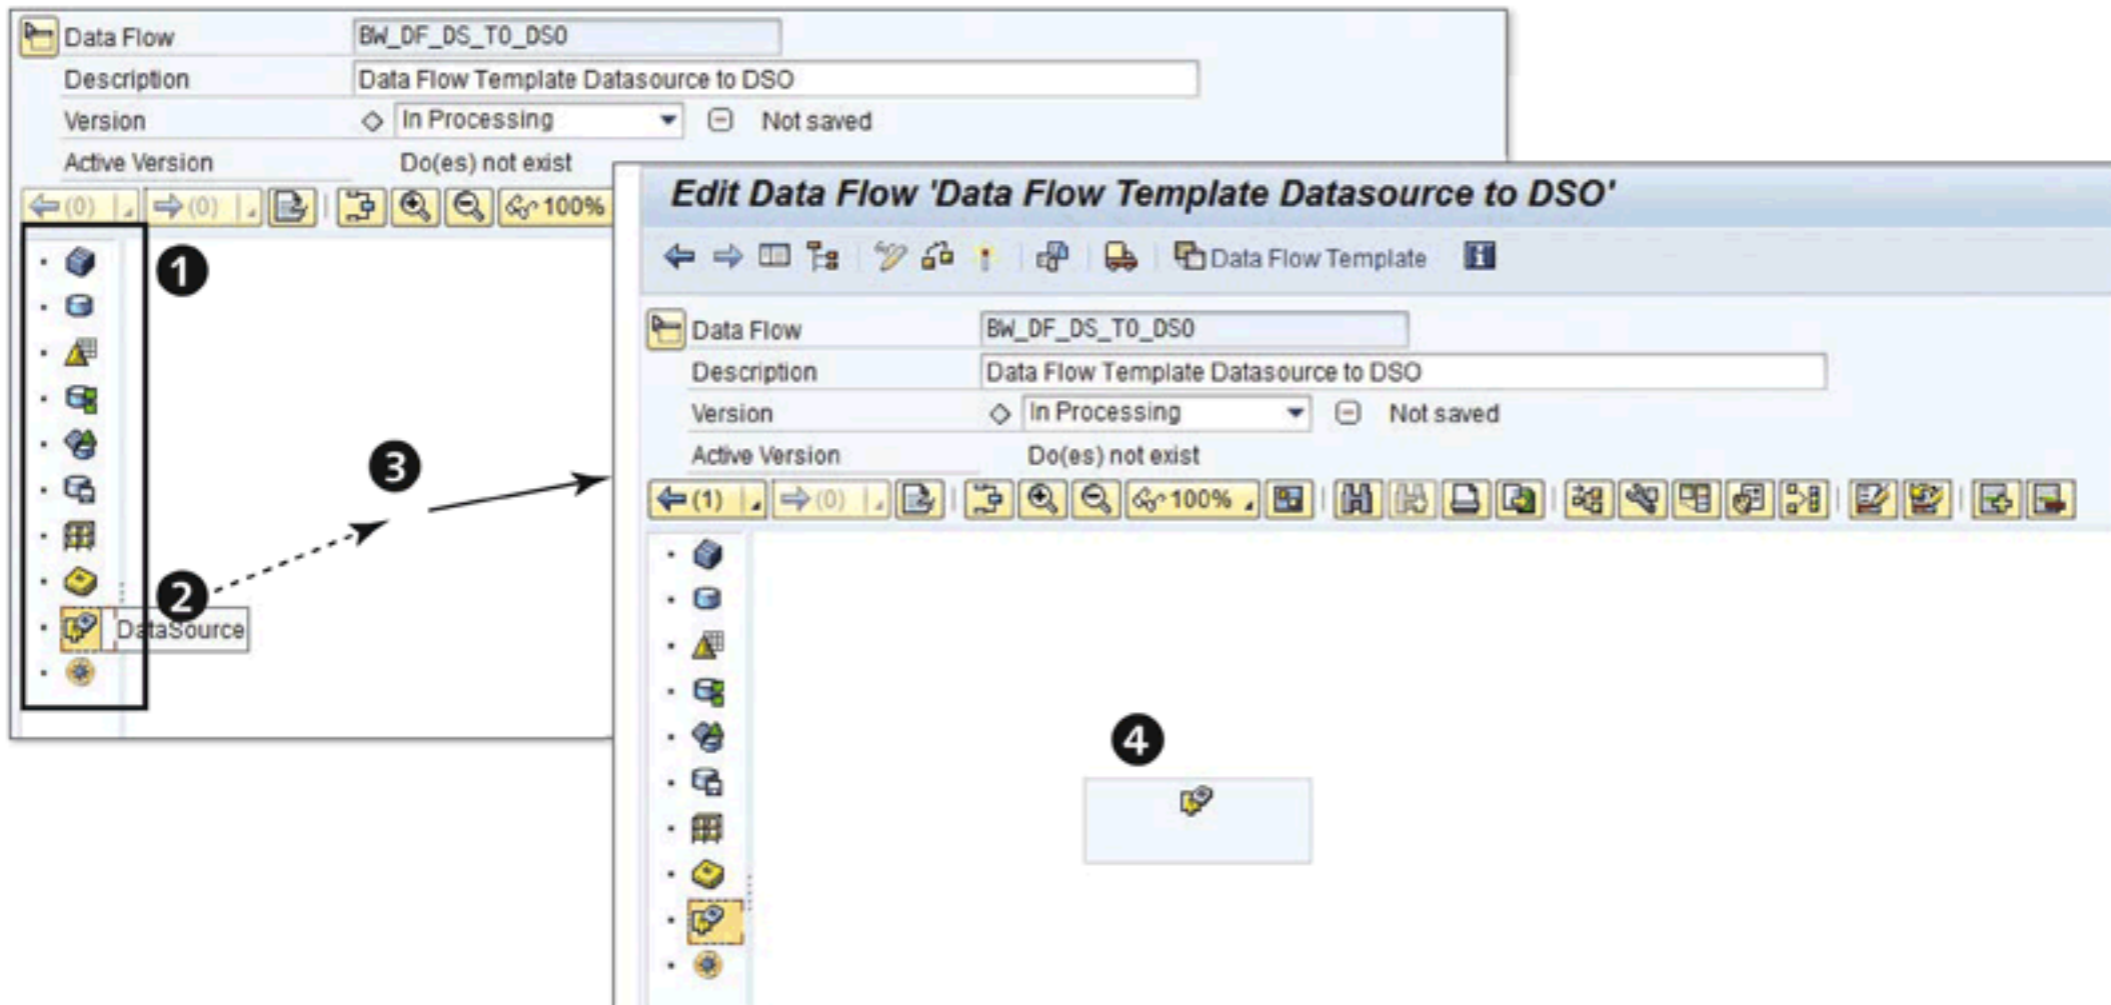

Figure 7.90 Edit Data Flow: Part 1
This brings up the EDIT DATA FLOW screen, as shown in Figure 7.90. The left panel (❶ of Figure 7.90) displays all the objects that can be included when defining a data flow or data flow template. This includes InfoCubes, DSOs, InfoObjects,
In our example, we create a DFT where a DataSource is connected to the DSO object. In order to do this, first click on the DATASOURCE icon, as shown in ❷ of Figure 7.90. Drag and drop this icon onto the right panel (❸ of Figure 7.90). The result of this action is shown in ❹ of Figure 7.90.